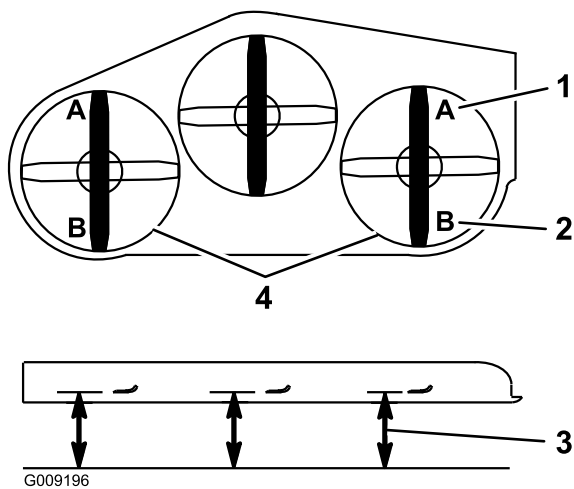

Figure 94
Note: The measurement should read 7.6 mm (3 inches) as shown in Figure 94.
15. On both sides of the deck, measure from the level surface to the back tip of the blade (position B) as shown in Figure 94.